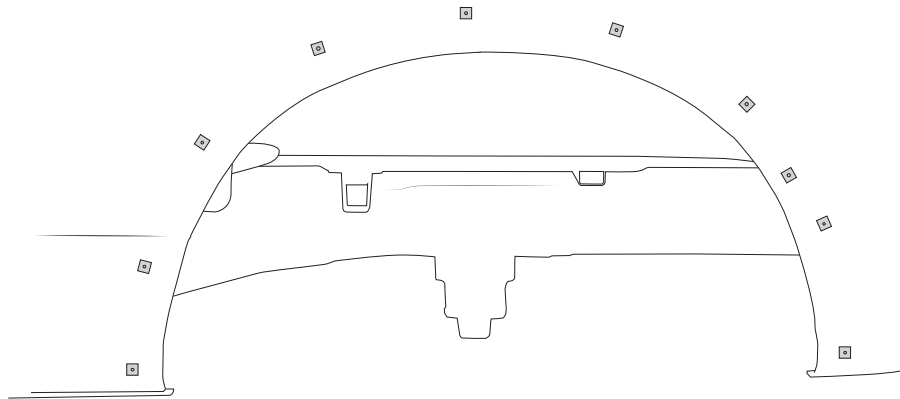

Figure 29
- F. Carefully remove the flare to make sure templates stick on the fender (fig. 29)